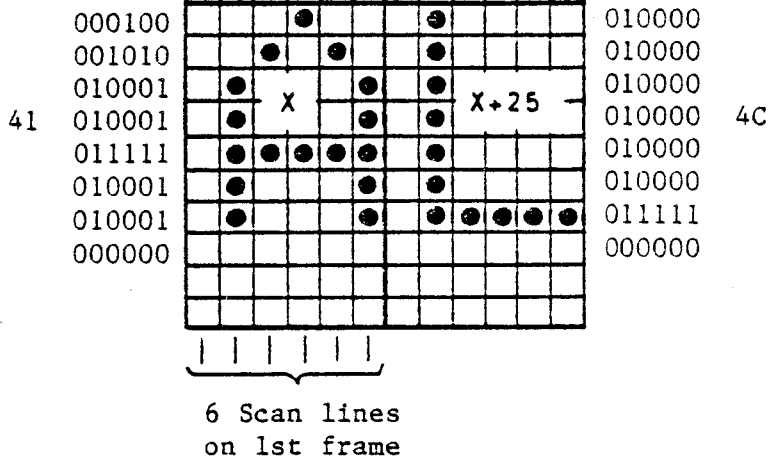

Fig. 10 Alphanumerics memory mapping (AC05)
98. Data from IC6/IC7 RAM provides the remainder of the Character generator's address to read out of 25 consecutive locations during each line scan as shown previously in Fig. 10. IC17 Character generator data output is then loaded into IC18 parallel in, serial out register at the beginning of a picture element and shifted out by LINEx320 (A32) (LINE being 15.625 kHz). When the next RAM location is addressed at LINEx32S (B21) (S indicates synchronized) 10 pixel outputs will be generated for each pixel vertical line, the last two elements are used as spacing blanks and are kept at logical 'low' level. The serial output of IC18 is finally gated at IC21a with the 'Character flash' circuit IC22/IC23, this is invoked when the data bit 7 is asserted high and gates the output at a rate of approximately 2 Hz.